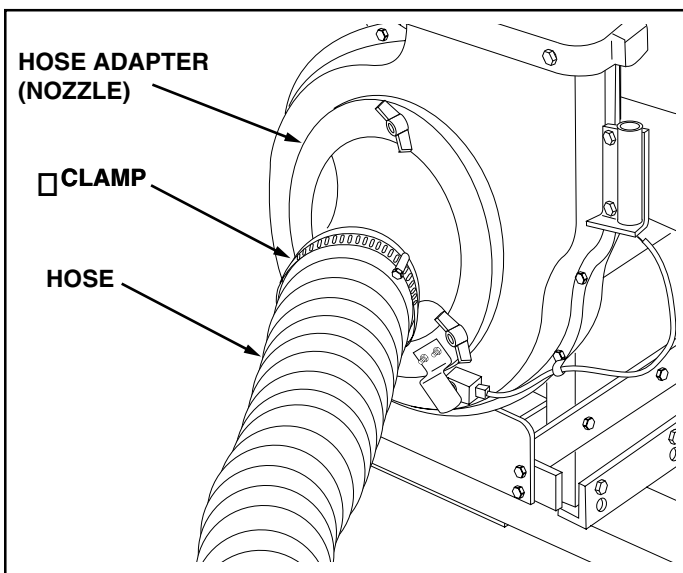

FIGURE 20
34. Place a hose clamp onto end of hose. Push hose onto hose adapter (nozzle). Tighten hose clamp onto hose and hose adapter. **Do not collapse hose adapter when tightening clamp.** See figure 20.